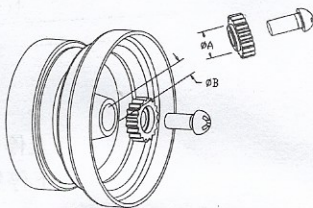

Fig.2
2) Match hole ΦA with the hole ΦB and tight the screw(See Fig.2).